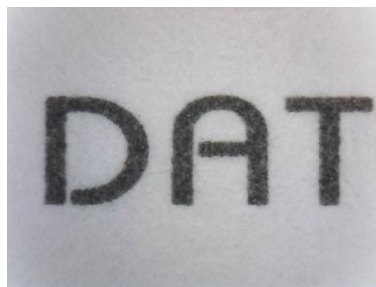

Fig 3-18 Video image with no flip
- ⊕ No Flip “ ” : Video image’s flip direction, does not makes any flip shown in Fig 3-18.
Once it clicks Fig. 3-18, it will show Fig. 3-25 .